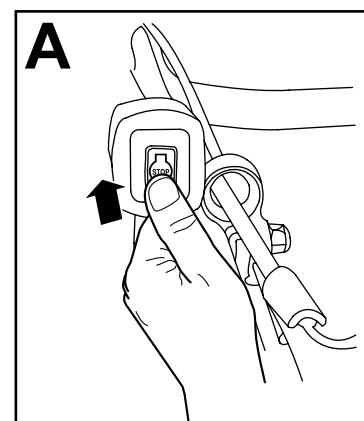

Figure 18
1. Turn the ignition key to the OFF position (A of Figure 18).
- When the engine shuts off, remove the ignition key and take it with you when you leave the machine (B of Figure 18).